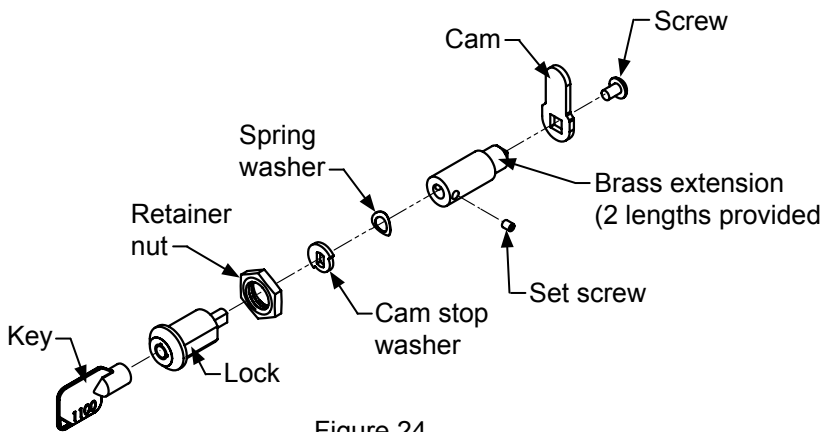

Figure 24
Two (2) lock extensions are provided with the lock. Use the longer extension for  $\frac{3}{4}$ " thick overlay panels and the shorter one for  $\frac{5}{8}$ " thick overlay panels. Assemble the lock extension, cam stop washer, spring washer, and set screw to the lock as shown in Figure 22 and Figure 24.